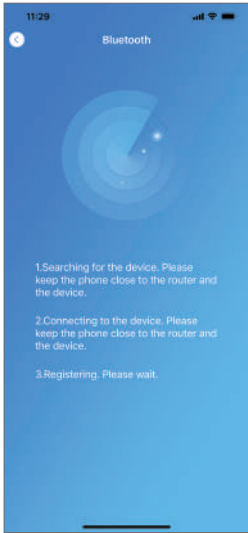

Fig.27 Searching device interface
- Click "Reconnect" (Fig.26) directly jump to searching device interface(Fig. 27);